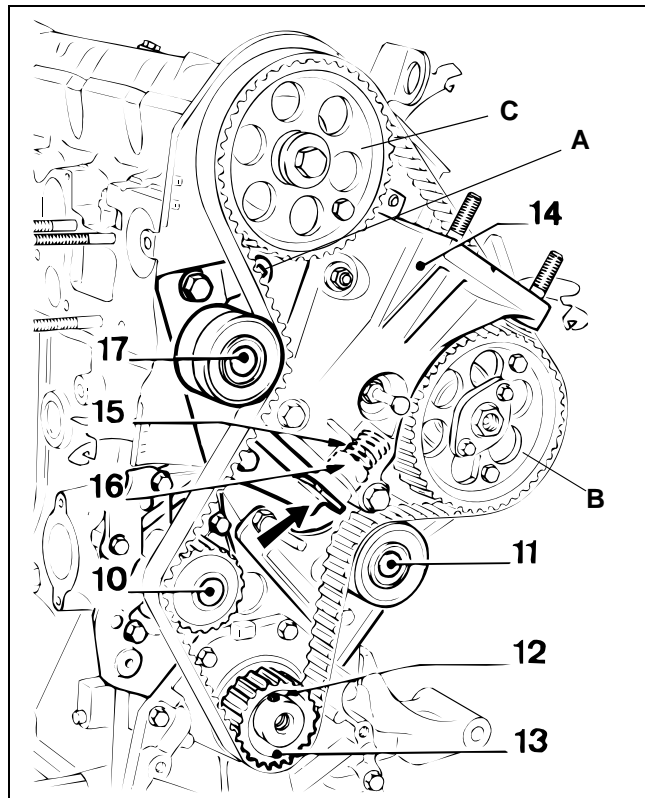
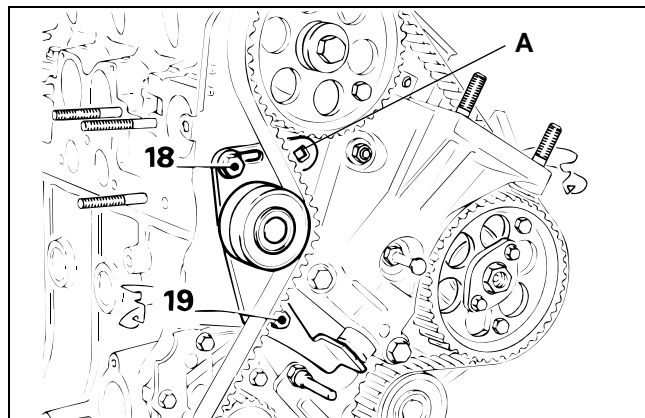

Figure 46
Figure 47
1. Install the new timing belt, with the runs taut, in the following order (Fig. 46):
2. Loosen the bolt (Fig. 47, Item 18) and nut (Item 19) to release the tensioner roller. **DO NOT** use Item **A** to set tension. Tension on belt is only to be set by the spring (Fig. 46, Item 15) when tensioner plate is free to rotate.